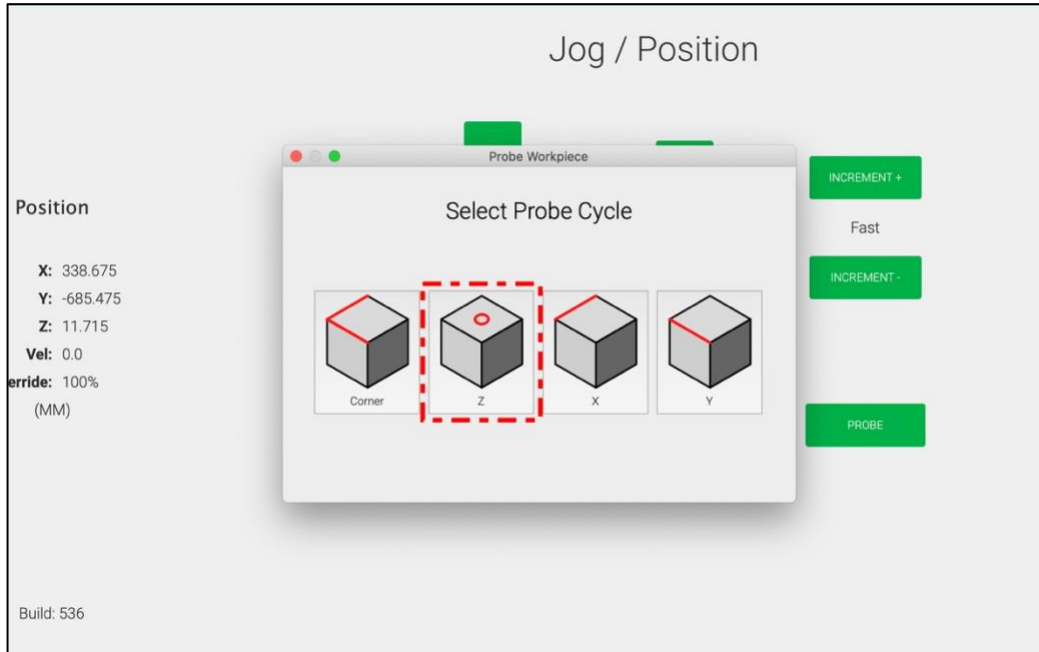

Figure 20
9. Select the Z probe cycle. See *Fig. 20*.